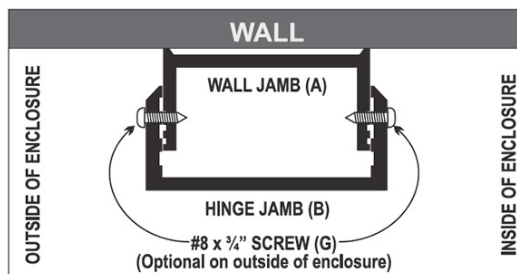

FIGURE 11
Install three #8 x 3/4" Self Tapping Screws (G) into the pilot holes drilled. (See Figure 11)
These are not necessary, but highly suggested to eliminate any move-ment during usage. Using a 1/8" drill bit, drill two pilot holes through both the Hinge Jamb (B) and the Wall Jamb (A) centered vertically with the Door Hinges (C). (See Figure 11 and 12)